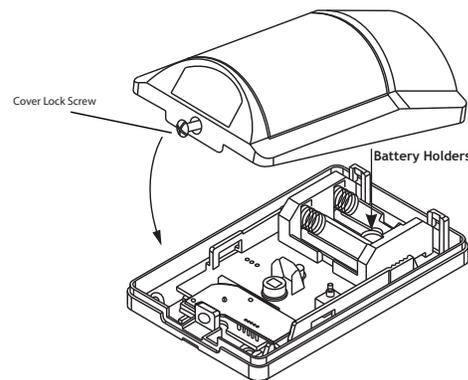

Figure 2: Remove the Cover
1. Remove the cover lock screw from the PIR. See Figure 2.
1. Remove the cover. See Figure 2.